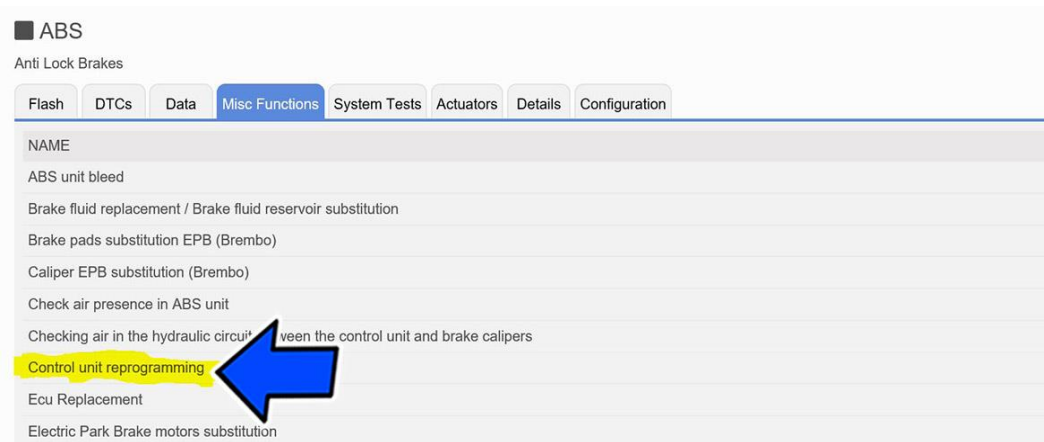

Figure 38 - Control Unit Reprogramming
- From the ABS “Misc. Functions” tab, select and run the “Control Unit Reprogramming” routine (Figure 38).